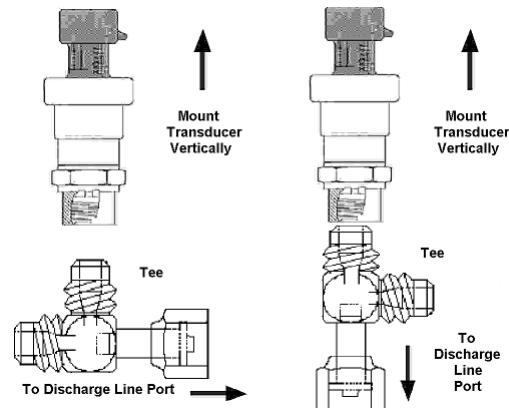

FIGURE 3 - P399 PRESSURE TRANSDUCER MOUNTING
- Tighten and secure the connection, making sure the transducer is mounted vertically. See Figure 3.